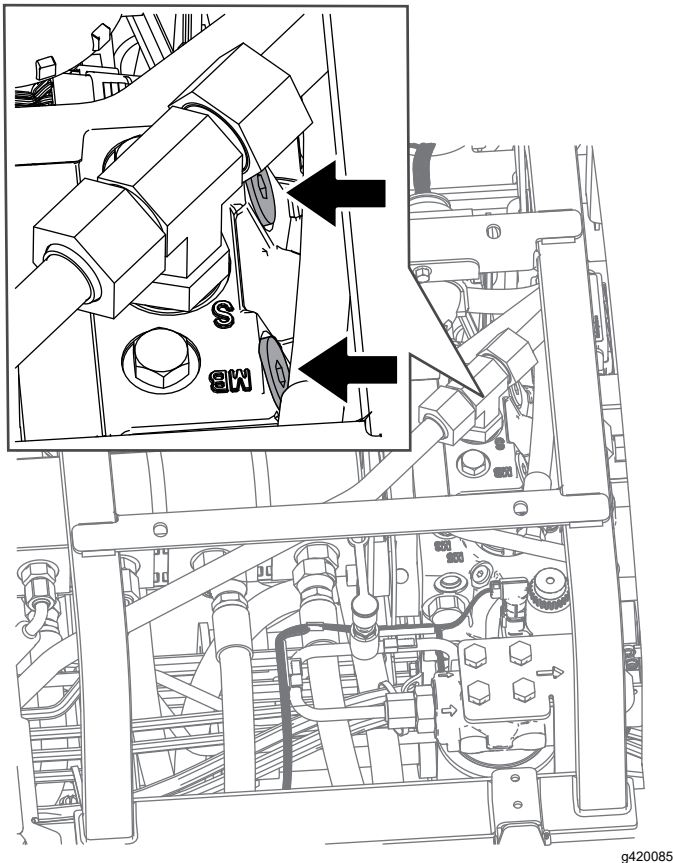

Figure 37
2. Locate the bypass valve under the seat and on the top of the hydrostat (Figure 37).